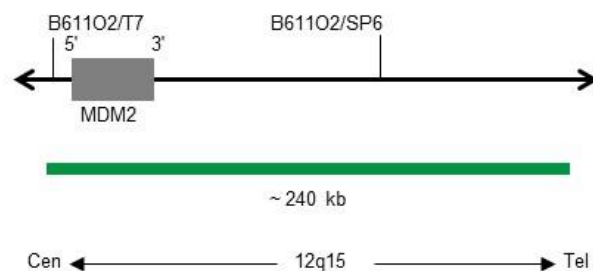

Fig. 1: SPEC MDM2 Probe map (not to scale)
- Digoxigenin-labeled polynucleotides (~1.1 ng/ $\mu$ l), which target sequences mapping in 12q15\* (chr12:69,190,708-69,430,185) harboring the MDM2 gene region (see Fig. 1).